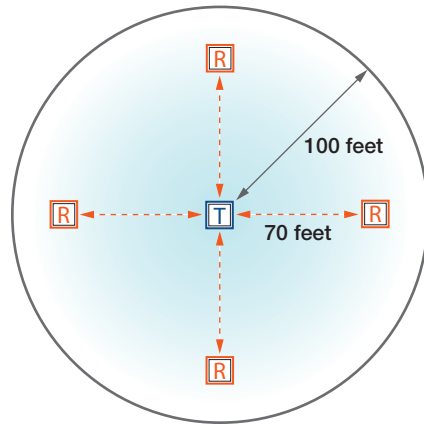

Figure 15. One-to-Four Application
- Ensure that the receivers are within a 100 foot (30 meter) radius of the transmitter with a clear line-of-sight (see figure 15).